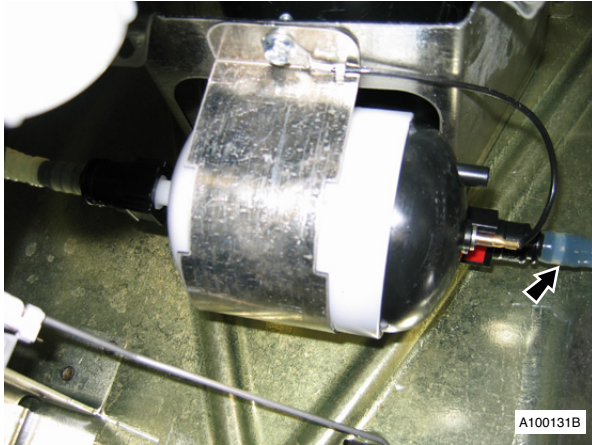

Fig. 2
11. Release the fuel filter hose to pump (x1) quick release unions (see Fig. 2).